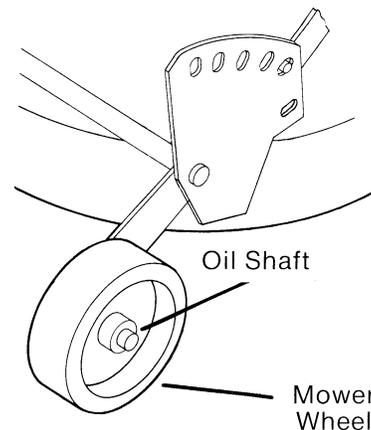

FIG. 8
- a. **Mower Wheels:** Oil shaft liberally, turning wheels to work oil in. If wheels become tight, remove wheels, clean shafts. Oil shafts using #30 wt. oil and replace. See (Fig. 8)